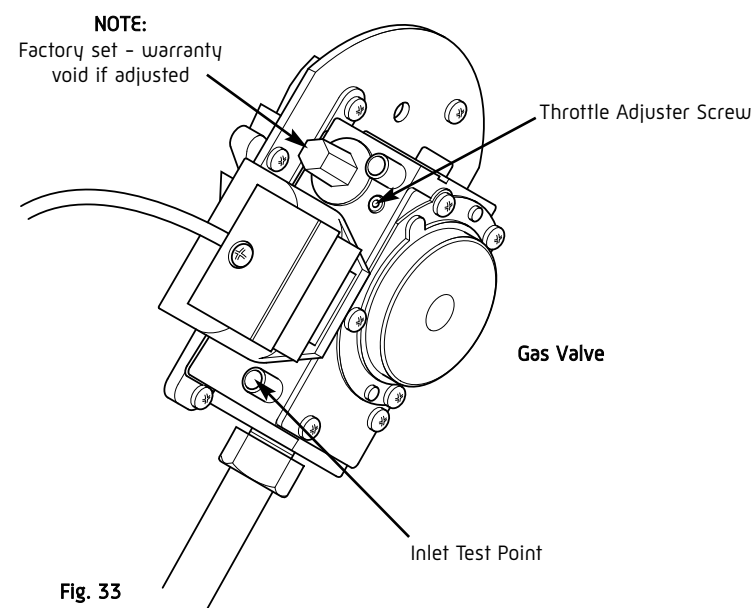

Fig. 33
1. With the boiler firing at maximum gas rate, check that the inlet pressure at the appliance is 19mbar +/- 1mbar when measured at the inlet pressure test point (Fig. 33). To set the boiler to maximum gas rate see section 11.0 (Service Mode).